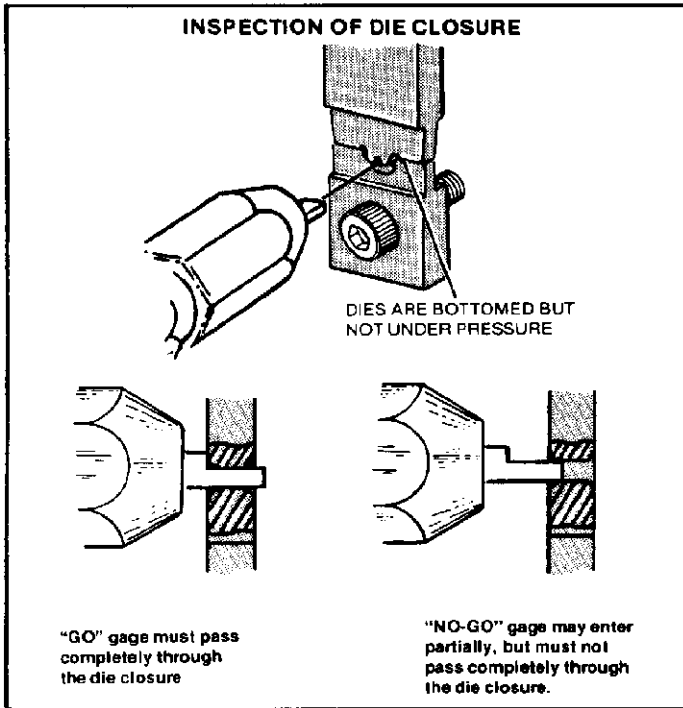

Figure 5
- (b) Assemble dies so they are bottomed but not under pressure. See Figure 5.
- (c) With dies bottomed, inspect the die closure using the proper plug gage. Hold gage in straight alignment with die closure and carefully try to insert without forcing, the GO member. See Figure 5. The GO member must pass completely through the die closure.
- (d) Try to insert the NO-GO member. The NO-GO member may enter partially but must not pass completely through the crimp closure. See Figure 5.